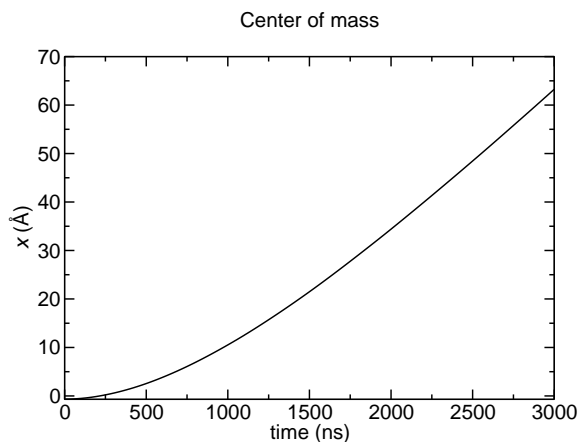

Figure 2: Center of mass position plotted versus time.
- 8 You should see a plot similar to Fig. 2. The beginning of the graph is quadratic, as we expect. However, the velocity saturates at some value because of the Langevin dynamics used in the simulation. Langevin dynamics involve a damping factor, which creates a terminal velocity.